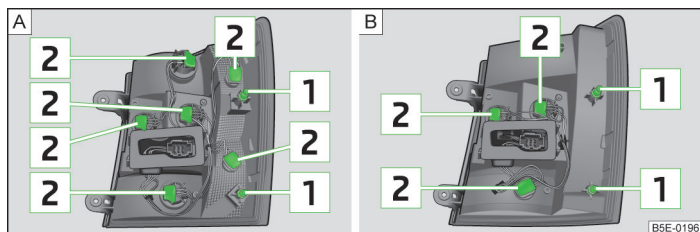

Fig. 235 Outer part of the light: Basic light/light with LED diodes
- Carefully press the tail lamp into the body so that the bolts [1] » Fig. 235 on page 262 on the lamp engage into the mounts in the body » .
- Turn the bulb holder  » Fig. 235 in an **anti-clockwise** direction and remove it from the lamp housing.